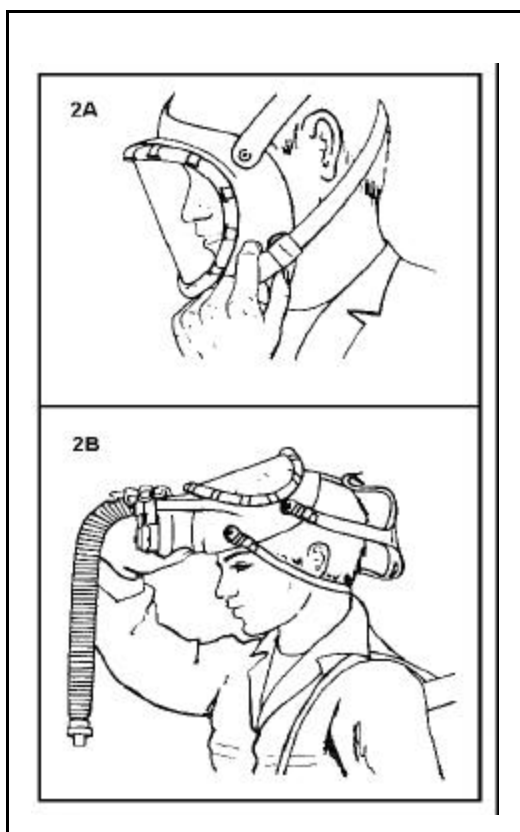

Figure 11-58. Removing and Restowing the Backpack Unit, Step 2
- **Step 2.** With the tips of your fingers, release the self-locking buckles on the facepiece harness (2A). Remove the facepiece as described earlier (2B) (Figure 11-58).